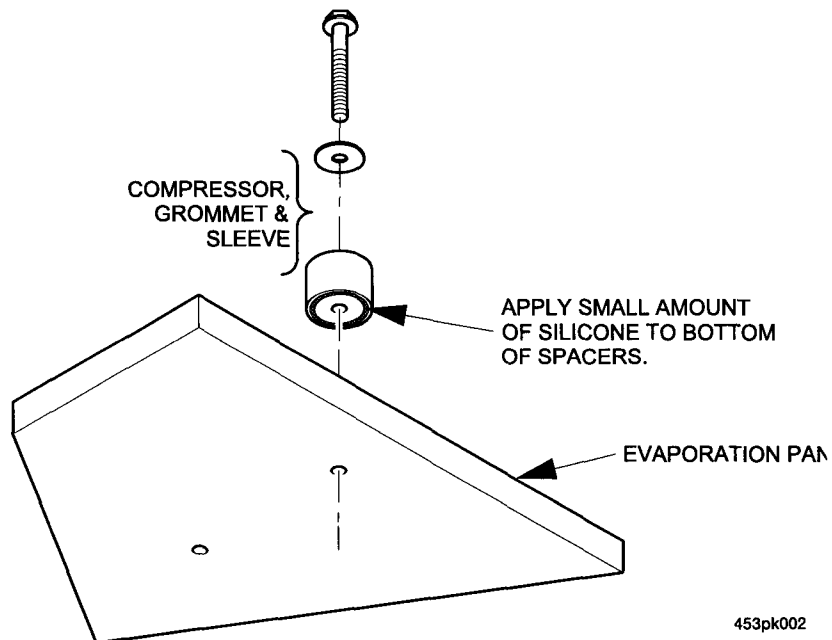

Figure 23
- c. Apply a small amount of silicone to the two remaining spacers (4534059) and position in the pan. Align and install hex screws (4534060) along with existing washers. **See Figure 23.**